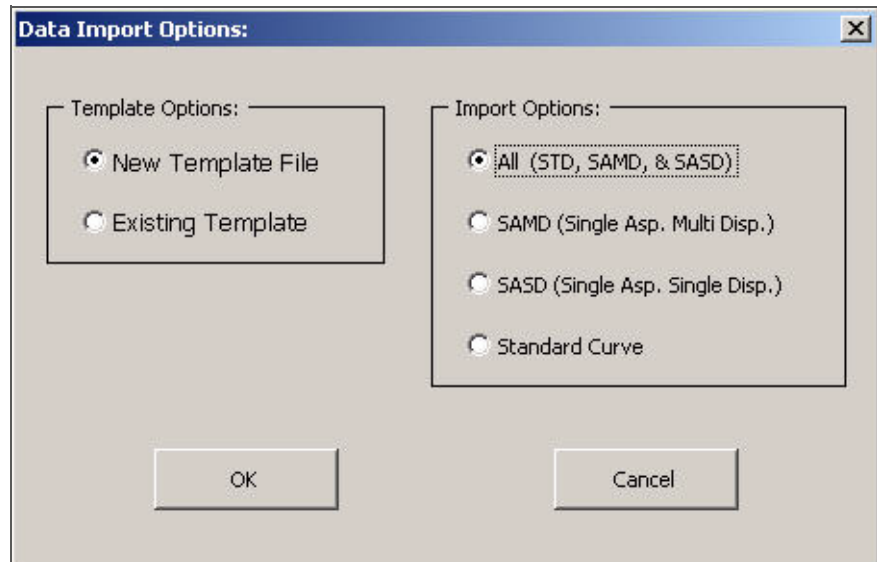

Figure 113 Data Import Options
3. For a new MCA QC run check the **New Template File** Template Option and check the **All** Import Option. Click **OK** (Figure 113).